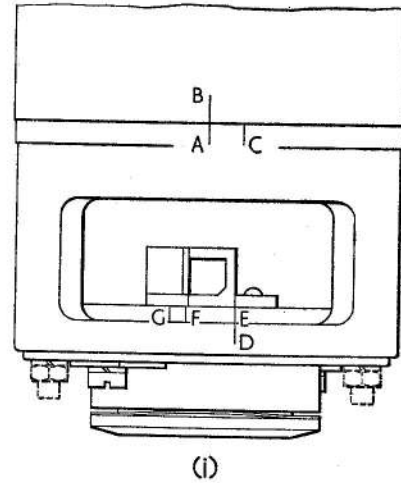

Fig. 15. Retardation from geometric neutral axis
- (e) Scribe a datum line A and B (fig. 15) across the commutator-end casing stator joint as detailed in Fig. 15. On a suitable plate scribe a circle of 67.0mm. dia. and two radii which subtend an angle of 10° as illustrated (not to scale). With dividers set to the chord length of this segment,
secure a further mark C (fig. 15) on the motor end casing in a clockwise direction using the point A.
It is important that the end casing/stator alignment C and B (fig. 15) should remain unaltered during the above operation.
41. (1) Rotate the end casing on the spigot of the stator assembly until the original datum lines A and B (fig. 15) are in alignment. Refit the tie-bolts and secure with spring washers and locknuts.
- (2) Scribe a circle of 59mm. dia. on a suitable plate. Mark two radii which subtend an angle of 17 degrees. Set dividers to the chord length of the segment formed by these radii.
- (3) Mark the brush box carrier and the end casing with a common datum line D and E (fig. 15). Use the dividers set as in sub-para. (2) of this paragraph to scribe a further line F (fig. 15) in an anti-clockwise direction from point B, on the brush box carrier.
- (4) Slacken the brush carrier securing screws and rotate the brush box assembly in a clockwise direction until the scribed line F on the brush box carrier aligns with the mark D on the end casing. Tighten the brush box securing screws.